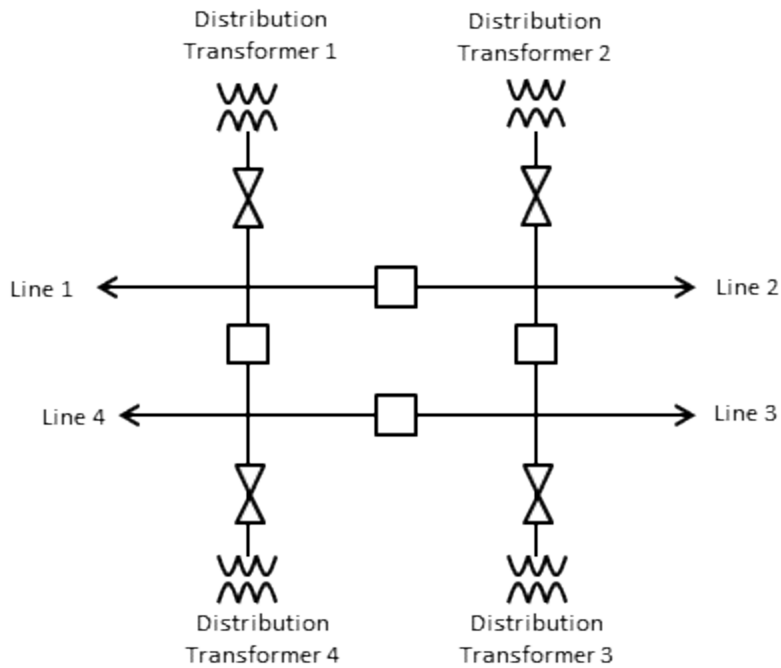

Figure 9 Ring bus configuration in a distribution substation
1. Installation of a transformer high-side breaker or circuit switcher is recommended. Figure 9 below shows a typical configuration design of a distribution substation connected to 230 or 138kV system